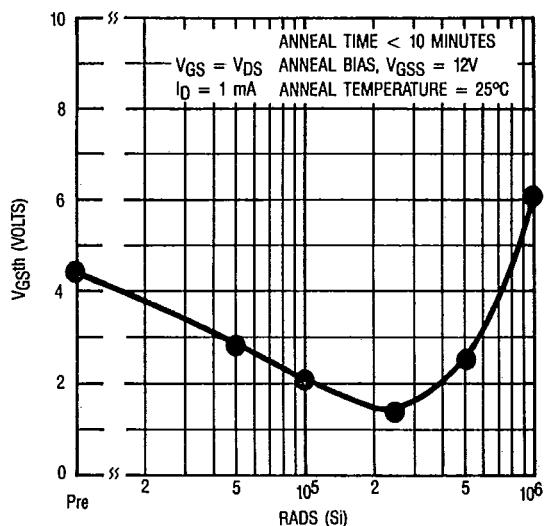

Fig. 1 — Typical Response of Gate Threshold Voltage Vs. Total Dose Exposure ⑥
Low dose rate testing is performed following MIL-STD-750C, test method 1019. Refer to notes ⑥ and ⑦. The lot is evaluated with two different test circuits. Device performance is presented in table 1. The values in table 1 will be met for either of the two low dose rate test circuits that are used. In addition, Rad Hard HEXFETs have been characterized for their post radiation response. Typical curves showing radiation response as well as post radiation response appear in figures 1 through 8.